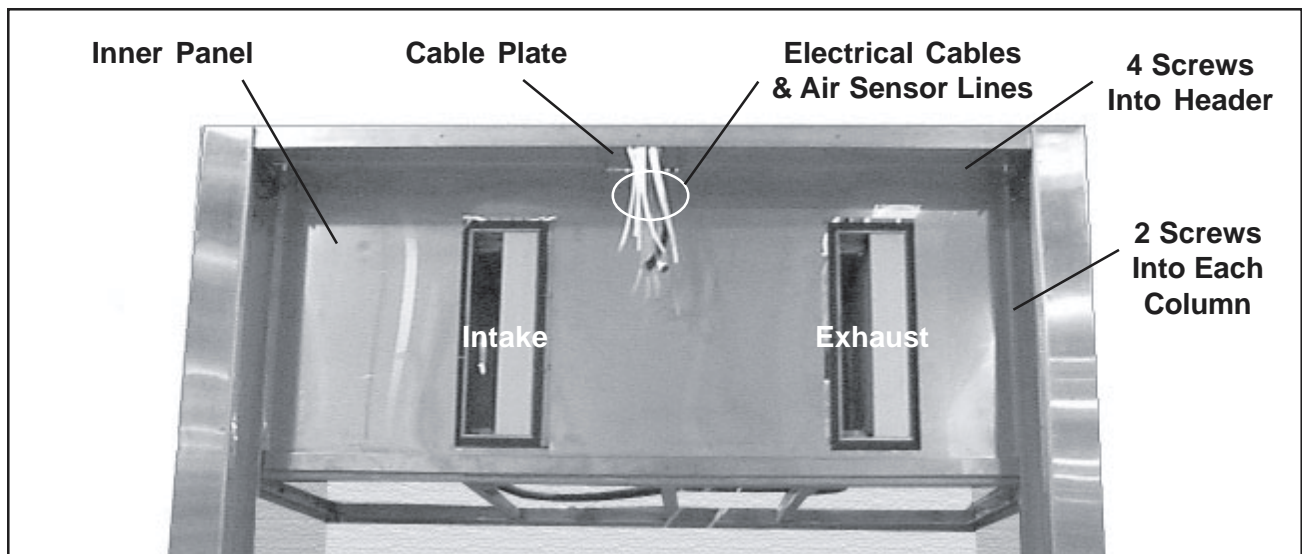

Figure 89. Front View of Cubicle with Inner Panel Installed
2. While supporting the panel, pass the three white nylon air lines (5, 6, & 7) down through the three small holes in the panel (Figure 89). Any line can go through any hole - it makes no difference.
5. Remove the four mounting screws holding the inner panel to the header (Figure 89), and the two screws holding the panel to each column, and remove the panel from the cubicle.